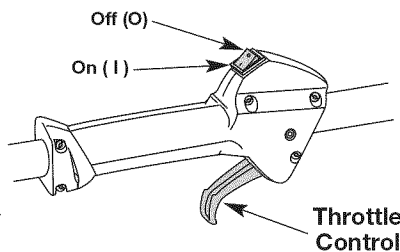

Fig. 5
**NOTE:** There is no need to turn the unit on. The On/Off Control is in the ON (I) position at all times (Fig. 5).
2. Press and hold the On/Off Control in the OFF (O) position until the engine comes to a complete stop (Fig. 5).